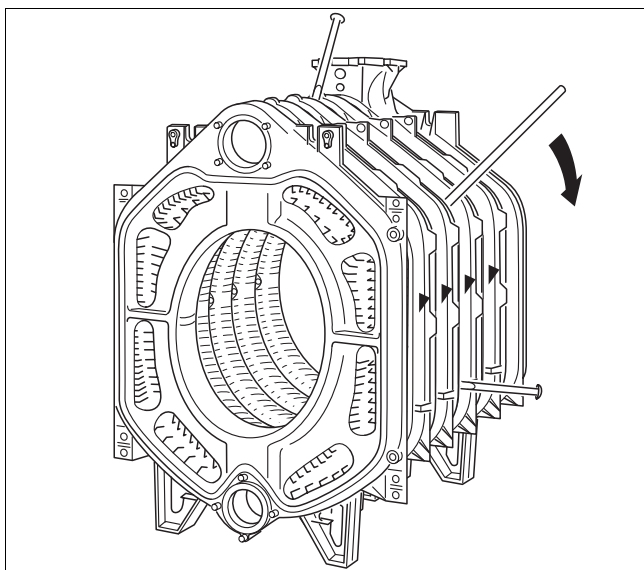

Fig. 25 Separate the boiler block
- ▶ Separate the boiler block at the leak location by driving (knocking) in flat wedges or chisels between the sections at the points provided at the top and bottom (→ Fig. 25).